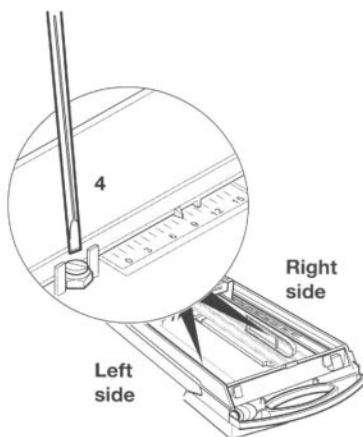

Figure 4-25. Cassette note width adjustment.
4. Refer to Figure 4-25. Move the left height steering guide to the front or rear of the cassette to align the pointer located on the bottom of the height steering guide with the correct setting (See Table 4-2) on the ruler on the bottom of the cassette.